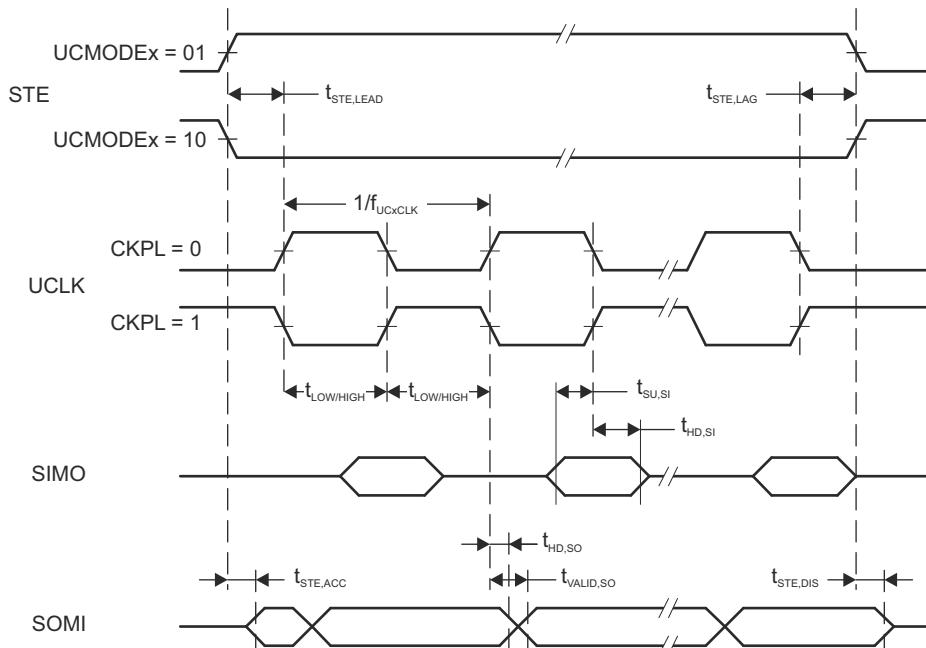
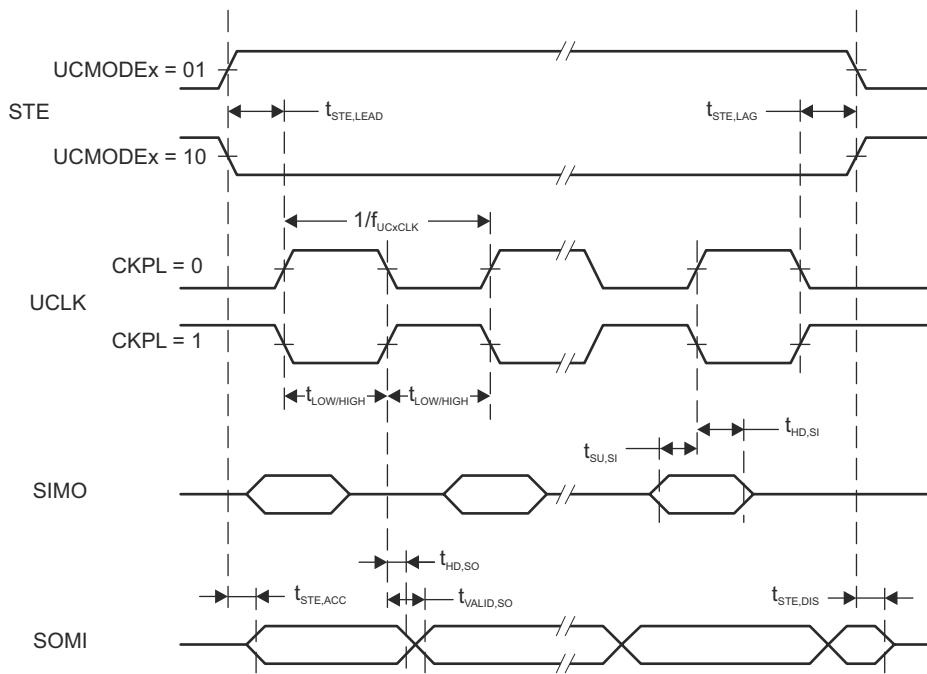

Figure 8-12. SPI Slave Mode, CKPH = 0
Figure 8-13. SPI Slave Mode, CKPH = 1
(2) Specifies the time to drive the next valid data to the SOMI output after the output changing UCLK clock edge. Refer to the timing diagrams in Figure 8-12 and Figure 8-13.
(3) Specifies how long data on the SOMI output is valid after the output changing UCLK clock edge. Refer to the timing diagrams in Figure 8-12 and Figure 8-13.